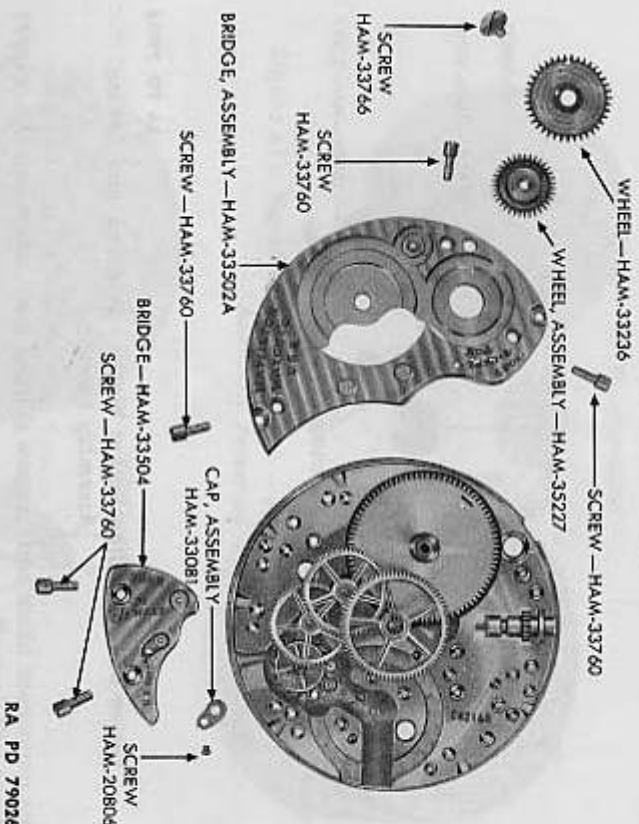

Figure 64 — Hamilton Pocket Watch — Barrel and Train Bridge Assemblies Removed
- n. Remove Bridges (fig. 64). Remove winding wheel screw, holding wheel from turning with a screwdriver. Lift off winding wheel. Remove barrel bridge screws and remove barrel bridge; if the
d. Replace Bridges (fig. 64). Assemble the lower winding wheel and the winding wheel on the barrel bridge. Place lower winding